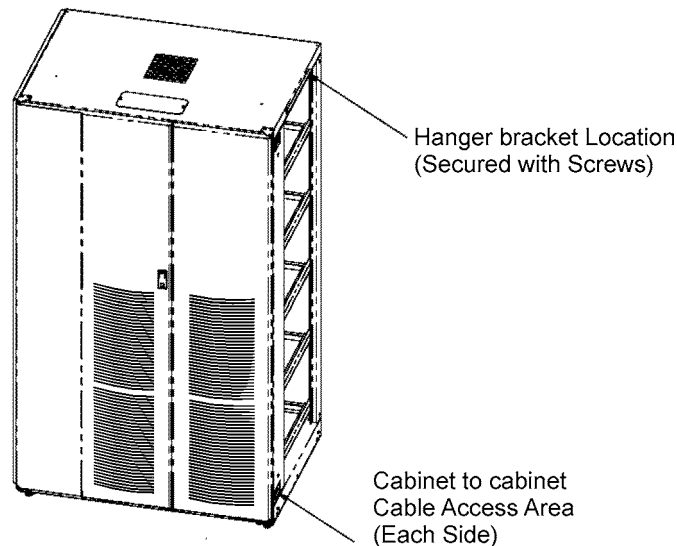

Figure 4-5. IBC-L battery cabinet hanger bracket location
14. If not already installed, mount the hanger brackets to the top appropriate side of the last battery cabinet using M4 screws (see Figure 4-5).